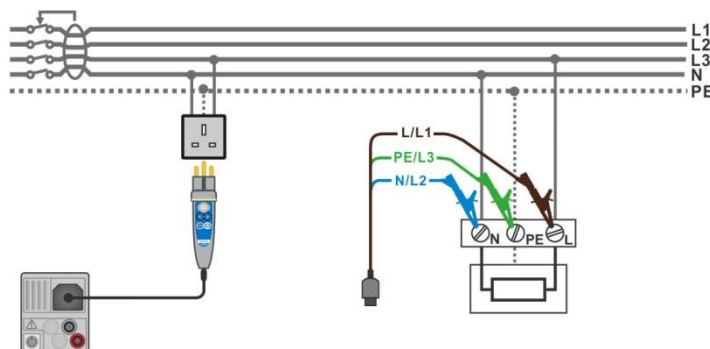

Figure 8.7: AUTO TN (RCD) measurement
- › Connect test leads or Plug commander to the object under test, see **Figure 8.7**.